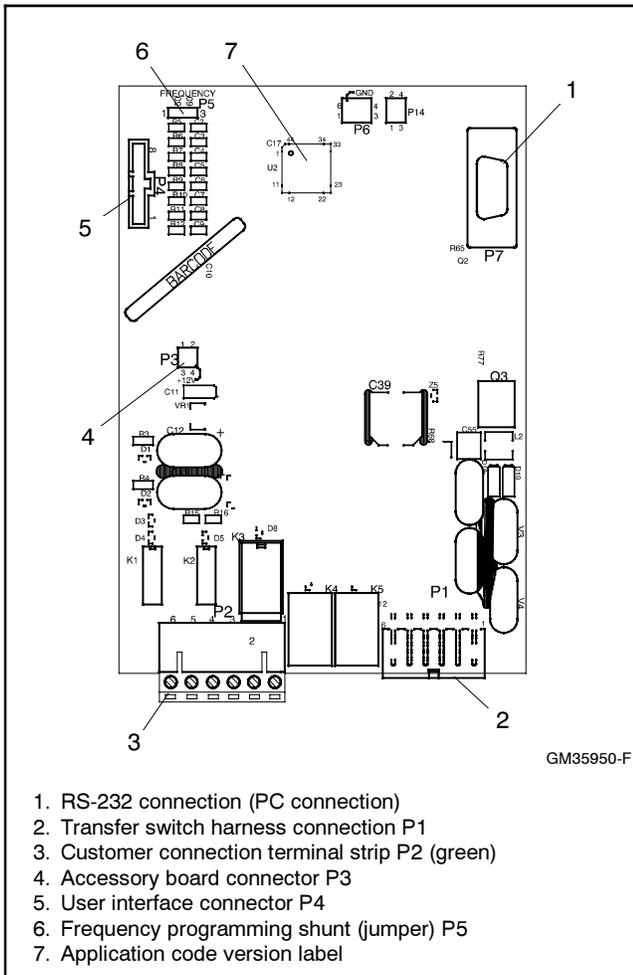
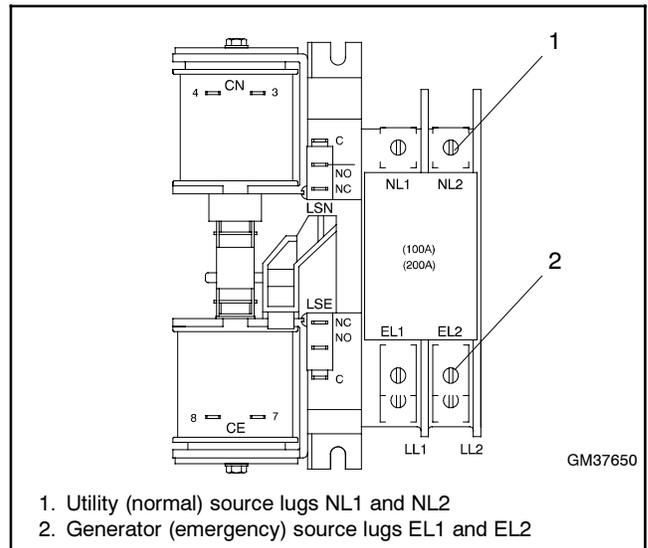
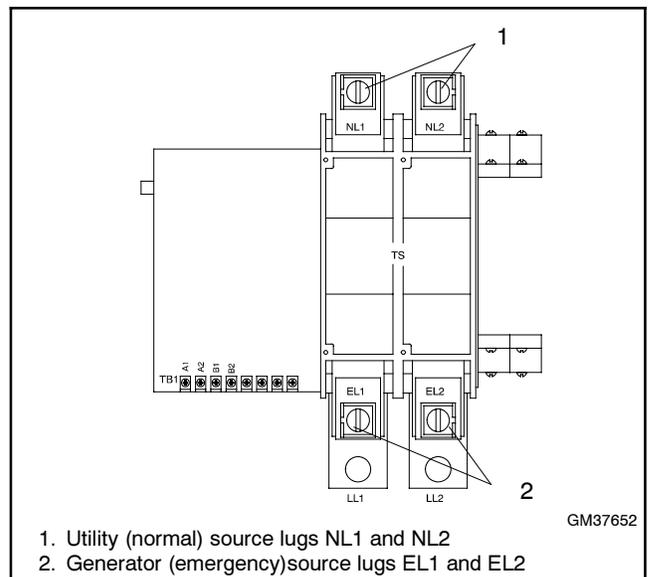

Figure 5-1 Controller Board Connections
Figure 5-2 Source Lugs, 100 and 200 Amp Models
Figure 5-3 Source Lugs, 400 Amp Models
Refer to Figure 5-1 through Figure 5-3 and the wiring diagrams in Section 6, as required.
2. Disconnect the transfer switch wiring harness from the P1 connector on the controller's main logic board. See Figure 5-1.
5. Use a voltmeter to check the utility source voltage and frequency to the transfer switch. See Figure 5-2 or Figure 5-3.
9. Use a voltmeter to check the generator source voltages and frequency at lugs EL1 and EL2. See Figure 5-2 or Figure 5-3.
The transfer switch frequency is set by a programming shunt (jumper) on the main logic board. See Figure 5-1 for the jumper location. Position the jumper as indicated in Figure 5-4 for 50 or 60 Hz.